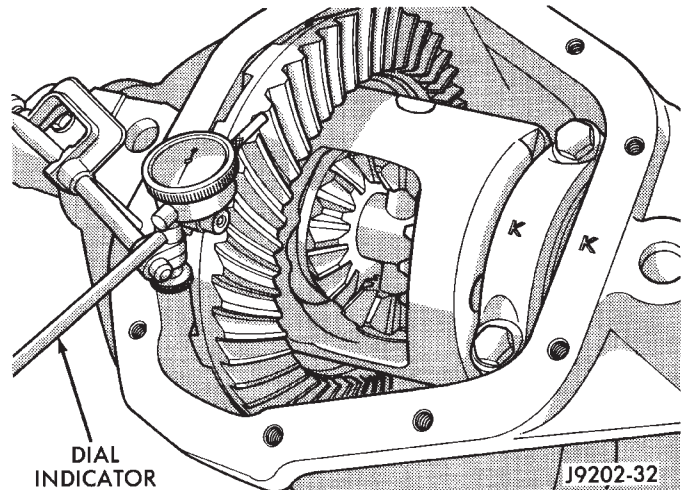

Fig. 75 Ring Gear Backlash Measurement
- (24) Subtract 0.002 in. (0.05 mm) from the dial indicator reading to compensate for backlash between ring and pinion gears. This total is the thickness of shim required to achieve proper backlash.
- (25) Subtract the backlash shim thickness from the total preload shim thickness. The remainder is the shim thickness required on the pinion side of the axle housing.
- (26) Rotate dial indicator out of the way on guide stud.
- (27) Remove differential case and dummy bearings from axle housing.
- (28) Install new side bearing cones and cups on differential case.
- (29) Install spreader W-129-B on axle housing and spread axle opening enough to receive differential case and side bearing shims.
- (30) Place side bearing shims in axle housing against axle tube ends.
- (31) Install differential case in axle housing.
- (32) Remove spreader from axle housing.
- (33) Rotate the differential case several times to seat the side bearings.
- (34) Position the indicator plunger against a ring gear tooth (Fig. 75).
- (35) Push and hold ring gear upward while not allowing the pinion gear to rotate.
- (36) Zero dial indicator face to pointer.